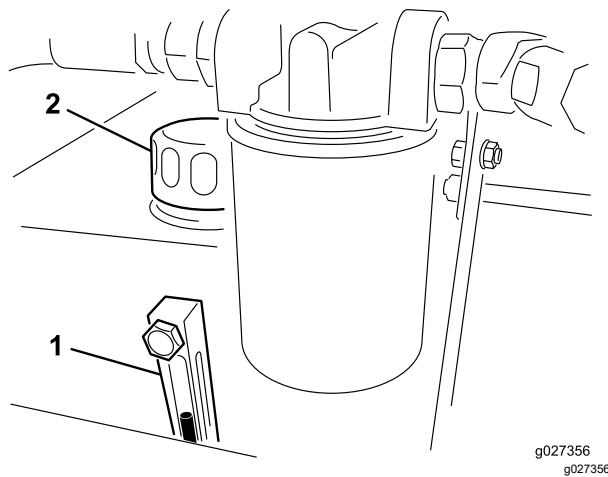

Figure 15
2. Check the level of the fluid by viewing the sight gauge (Figure 15).